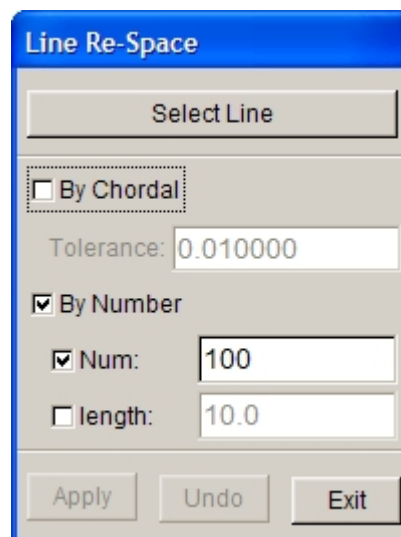

Figure 5.1.32 Line Re-Space dialog box
This function allows the user to redistribute the points on the selected line. The dialog box is illustrated in Figure 5.1.32.
- The Line Re-space dialog box will pop-up as illustrated in Figure 5.1.32. There are three options available for the user to decide the density of point on line.